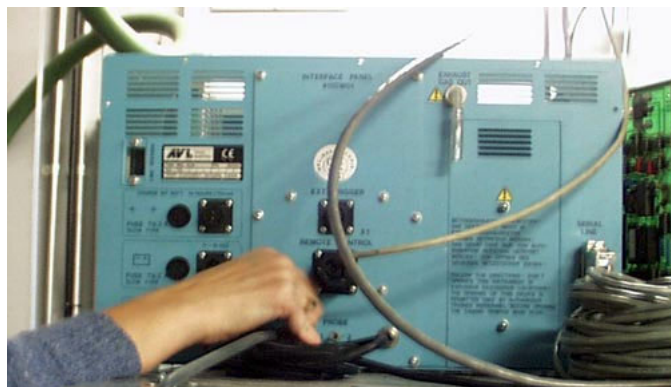

Figure 6
- 114 At the back of the AVL 415 Smoke Meter, connect the sample hose to Probe 1 found at the bottom of the back panel. See Figure 6.